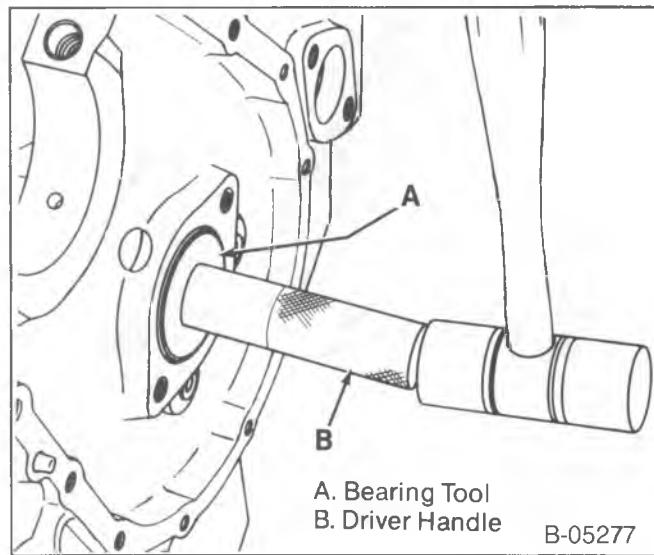

Figure 20—Removing or Installing the Outer Camshaft Bearings
- Outer camshaft bearing. Use J 6098-01 (figure 20).
- Outer camshaft bearings. Drive the bearings into place using J 6098-01 (figure 20).